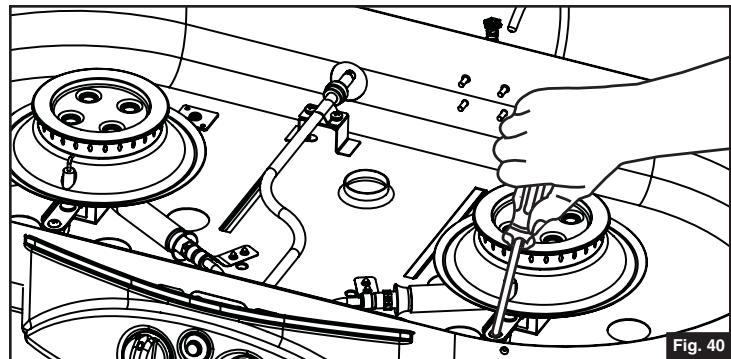

Fig. 40
- Using a screwdriver, remove the self-tapping screws holding the burner clamps and remove the burners. (Fig. 40)